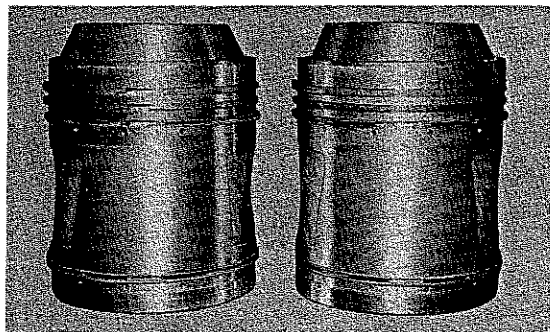

Fig. 85 Arrangement of rings
- Mount the compression and oil rings on the pistons. Do not align the ring gaps. (Refer to Fig. 85.)